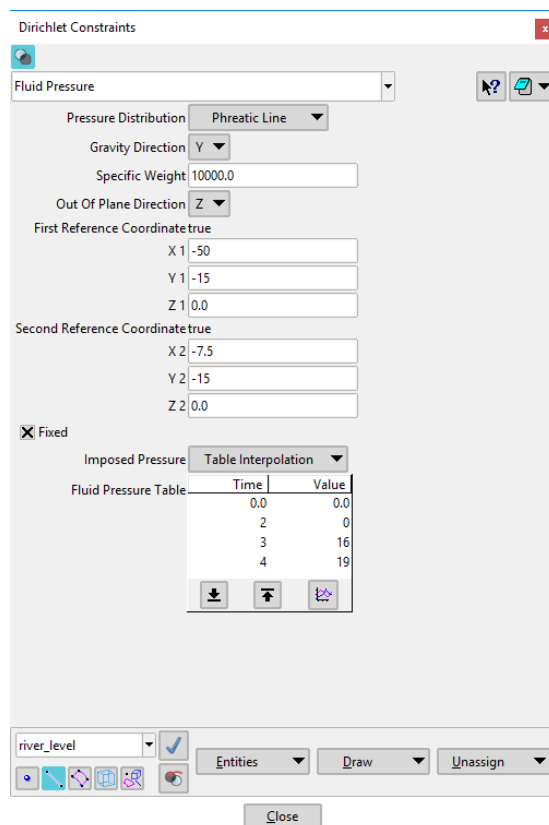

Figure 8.7: River water level tutorial 1
- 14 The first water level to be added is the river water level. Click on *GeoMechanicsApplication* -> *Dirichlet Constraints*. In the Dirichlet Constraints window, select Fluid Pressure from the top drop-down menu. Fill in the parameters as shown in Figure 8.7. Assign this fluid pressure to line 7.